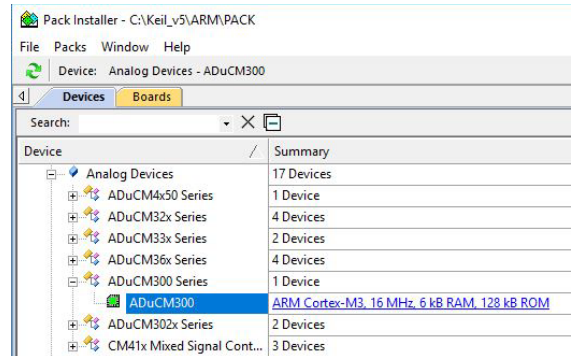

Figure 8. Devices Tab
4. In the **Devices** tab, click **Analog Devices > ADuCM300 Series > ADuCM300** (see Figure 8).